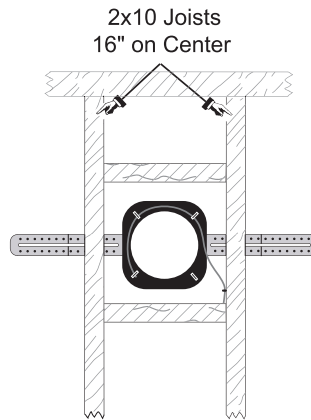

Figure 7
- G. After the speaker bracket is installed, place the speaker wire through the speaker wire retaining clips to protect it from dry-wall saws and ensure easy location at finish time. (**See Figure 7**)